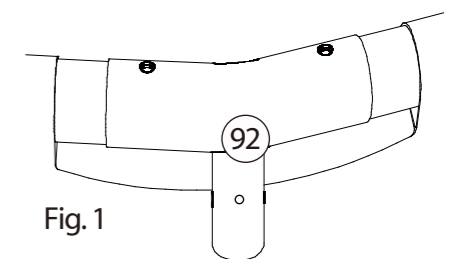

Fig. 1
- B. Locate the metal pipe and Tee Fittings (92) for the frame section of the pool. The shorter pipe sections with the larger diameter and the pair of holes at both ends are the Horizontal Beams (91). The longer pipe sections with the smaller diameter and the Spring Pin (95) at one end are the Vertical Legs (94). Take the Horizontal Beams (91) and insert them into the pockets stitched along the top edge of the pool wall. Rotate it in the pocket so that the holes are on the top and bottom of the pipe protruding from each end of the pockets. Take one end of the pipe and insert it into a Tee Fitting aligning the holes with the holes in the Horizontal Beam. **DO NOT** install any of the Pins (93) at this time. Continue around the pool in either direction installing all of the Tee Fittings onto the Horizontal Beams. See Fig 1.